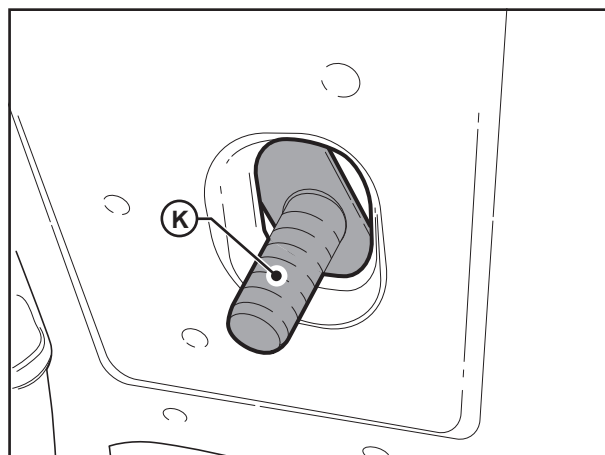

FIGURE 12
- Insert M12 chassis bolt plate (**item K**) into oval access opening in the body as shown in Figure 12.